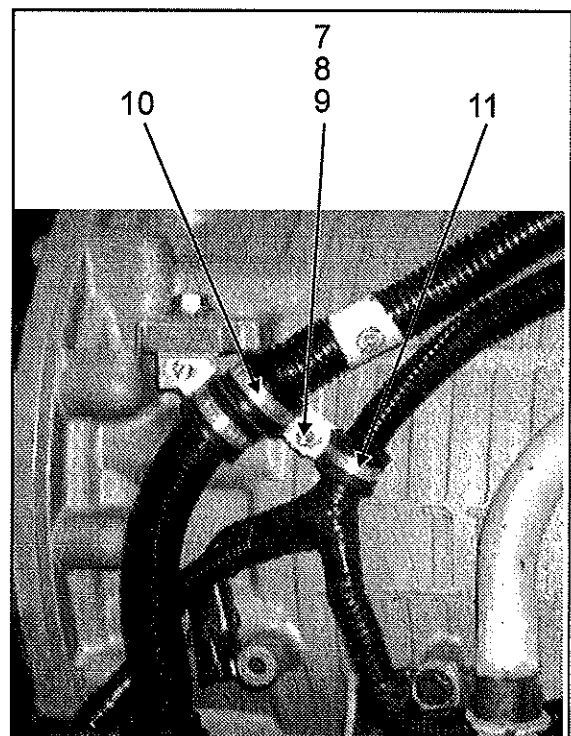

FIGURE 4
7. Secure transmission sensors' harness with main harness using retaining clips (10 and 11), screw (7), lock washer (8) and nut (9) (**Figure 4**).